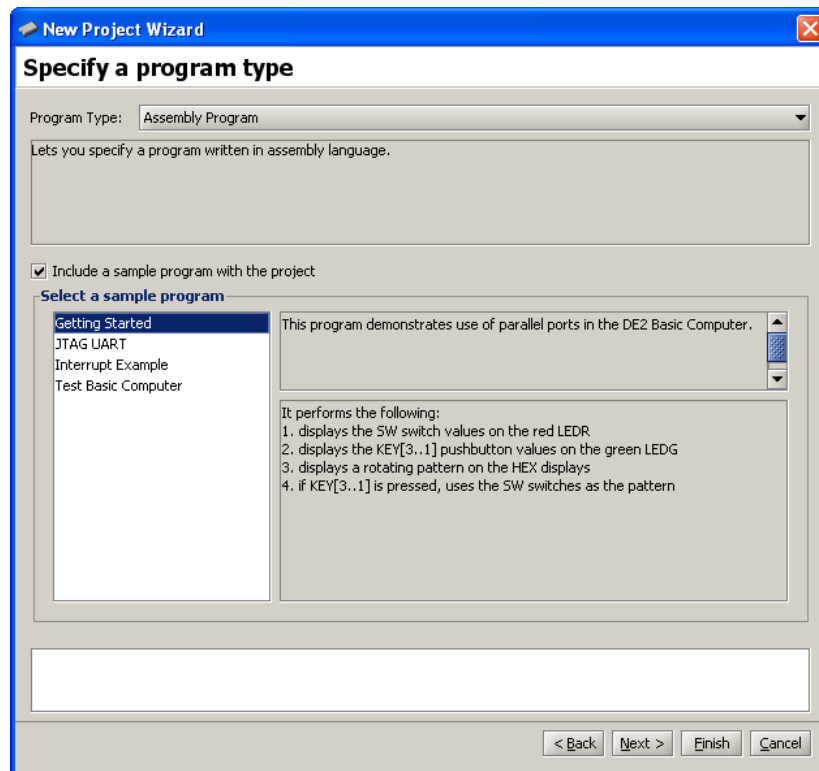
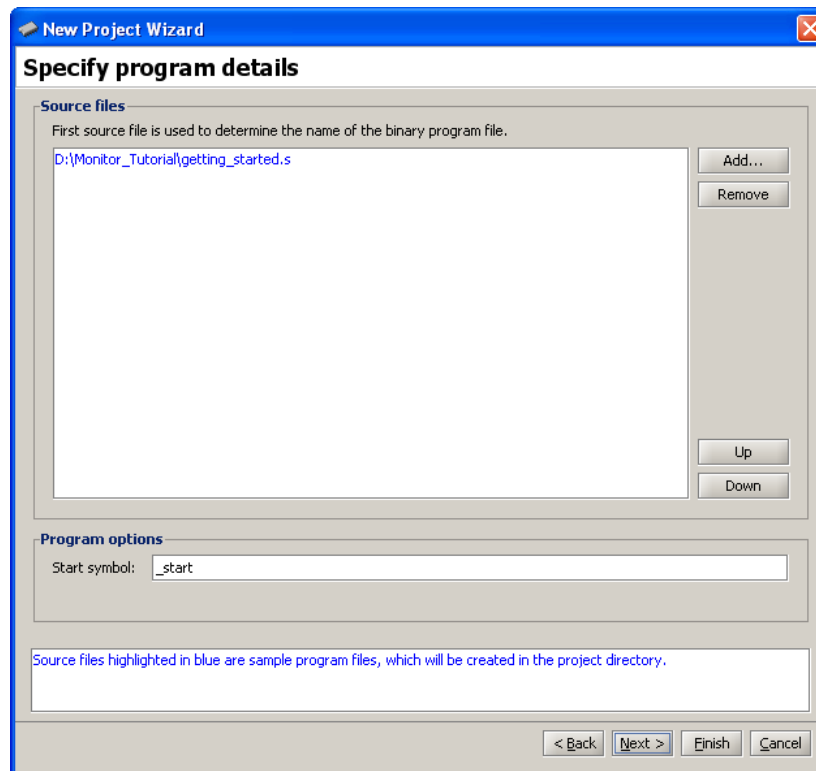

Figure 8. Selecting a program type and sample program.
Figure 9. Specifying source code files.
3. Click Next to advance to the screen in Figure 8, which is used to specify the program source files that are associated with the project. The Program Type drop-down list can be used to select one of the following program types:
sample program with the project. As illustrated in Figure 8 several sample assembly language programs are available for the DE2 Basic Computer. For this tutorial select the program named *Getting Started*. Click **Next** to advance to the screen in Figure 9. When a sample program has been selected, the source code file(s) associated with this program are listed in the **Source files** box. In this case, the source file is named *getting\_started.s*; this source file will be copied into the directory used for the project by the Monitor Program. If a sample program is not used, then it is necessary to click the **Add** button and browse to select the desired source file(s).
Figure 9 shows that it is possible to specify the label in the assembly language program that identifies the first instruction in the code. In the *getting\_started.s* file, this label is called `_start`, as indicated in the figure.